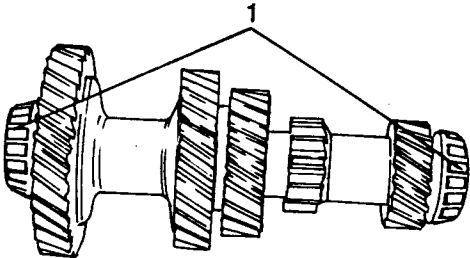

Fig H1.74
- (2) Refer to Fig H1.74. Remove the front and rear layshaft bearings (1) and put them to one side taking care not to interchange them when re-fitted.